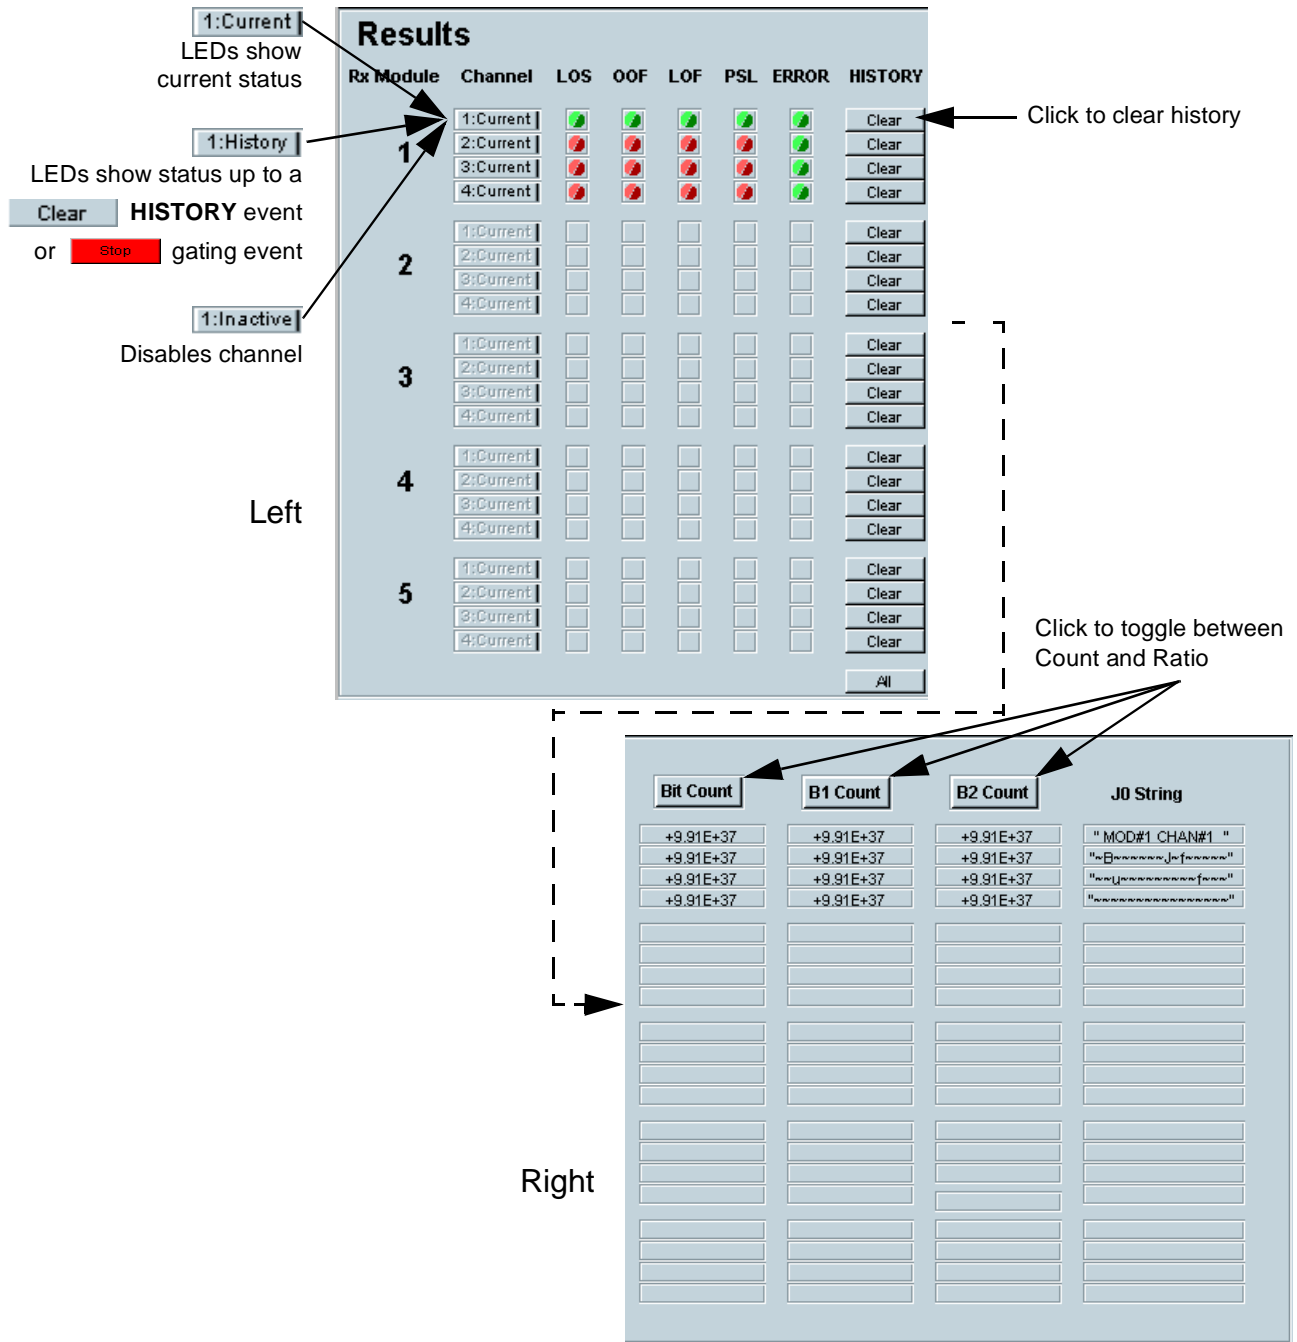

Figure 3-3. Results Panel
- Figure 3-3 on page 25 describes the Results section of the soft panel.